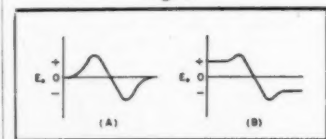

Fig. 4.
(A) and (B) of Fig. 4 shows the unusual range of control of this discriminator. The usual discriminator develops an output voltage linearly related to frequency deviation, but correction voltage drops off to practically nothing above and below a rather small band right around center frequency. The new circuit remains linear over only a similarly small band, but the correction voltage remains at a high value for (theoretically) an infinitely wide range both above and below center frequency.